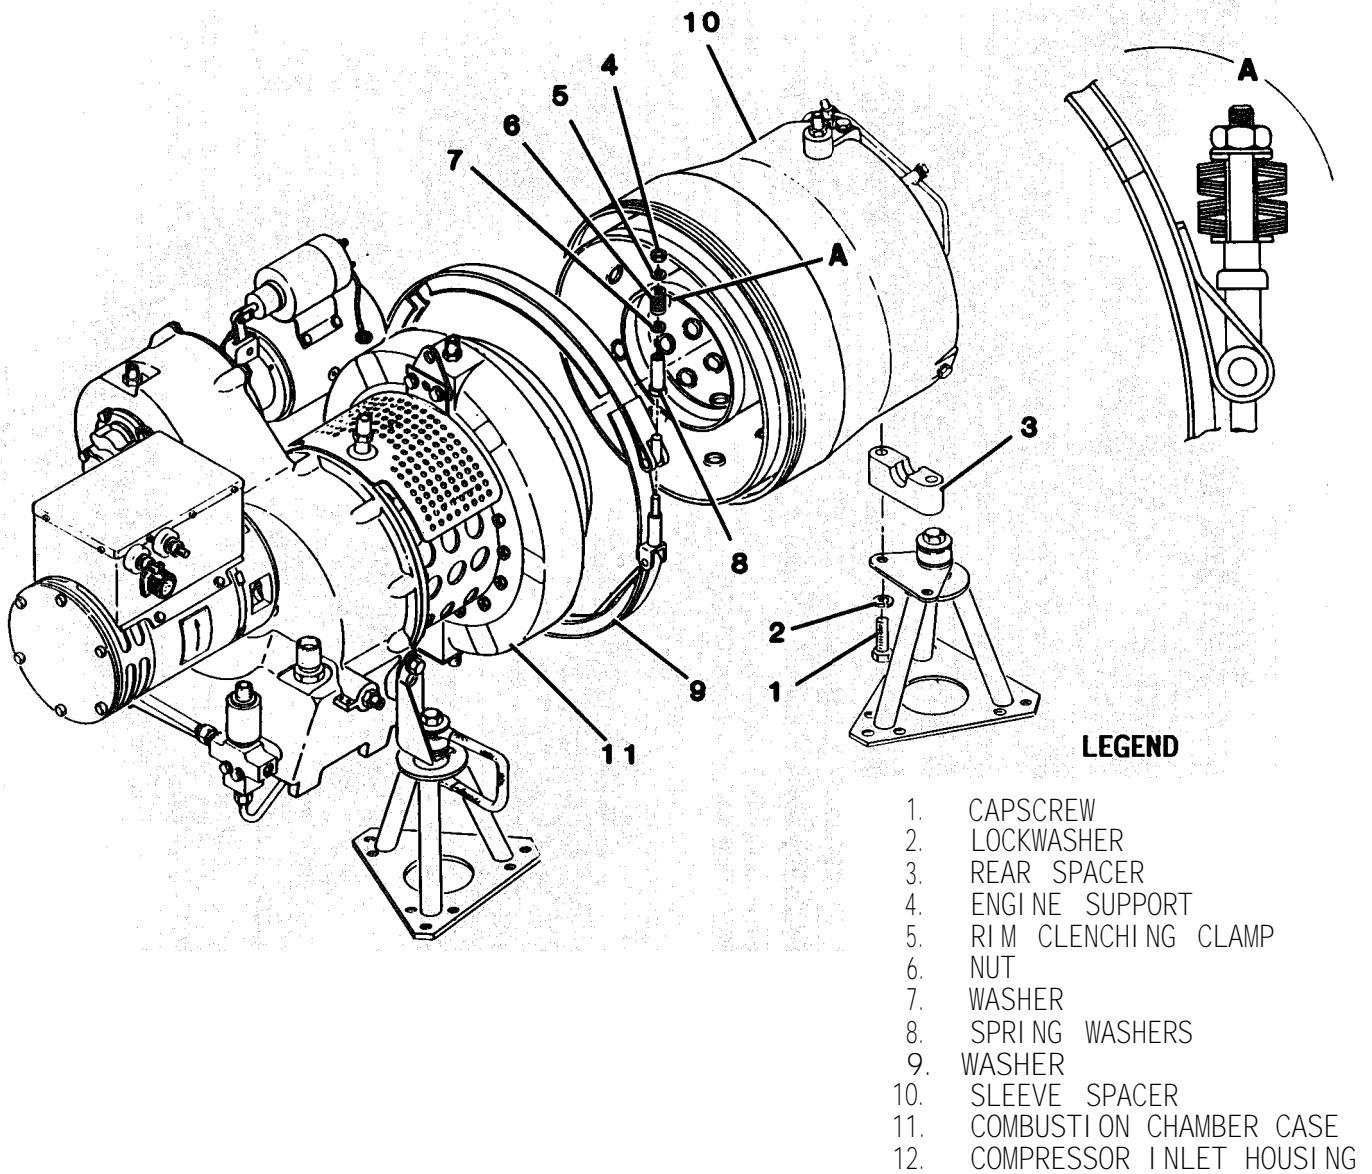

Figure 8-1. Combustion Chamber Case Assembly Removal
(4) Insert block of wood (3/4 in. by 1-1/2 in. by 4 in.) under gearbox.
(5) Remove capscrew (1, figure 8-1), lockwasher (2), and rear spacer (3).
To prevent damage and to ensure proper operation, spring washers must be installed as shown in figure 8-1, inset A.
(2.1) Refer to inset A of figure 8-1. Install spring washers (6) as shown.